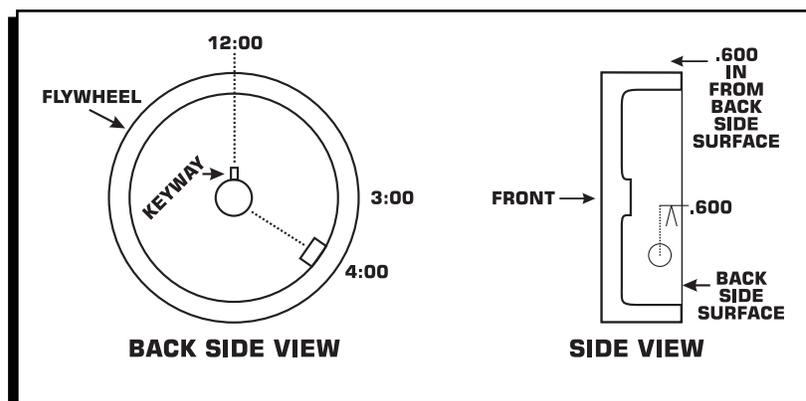

Figure 5 Magnet Placement for Tecumseh Engines.
2. Apply a small amount of a quality epoxy to the unmarked side of the supplied magnet. Position it on the inside diameter of the flywheel between the 3:00 and 4:00 position (Figure 5). The magnet center should be placed .600" in from back edge of flywheel.
3. Install the flywheel then check the airgap between the pickup and the flywheel surface. It should be 0.030" - 0.095" (Figure 5). Rotate the flywheel to make sure there are no high or low areas out of the specification.